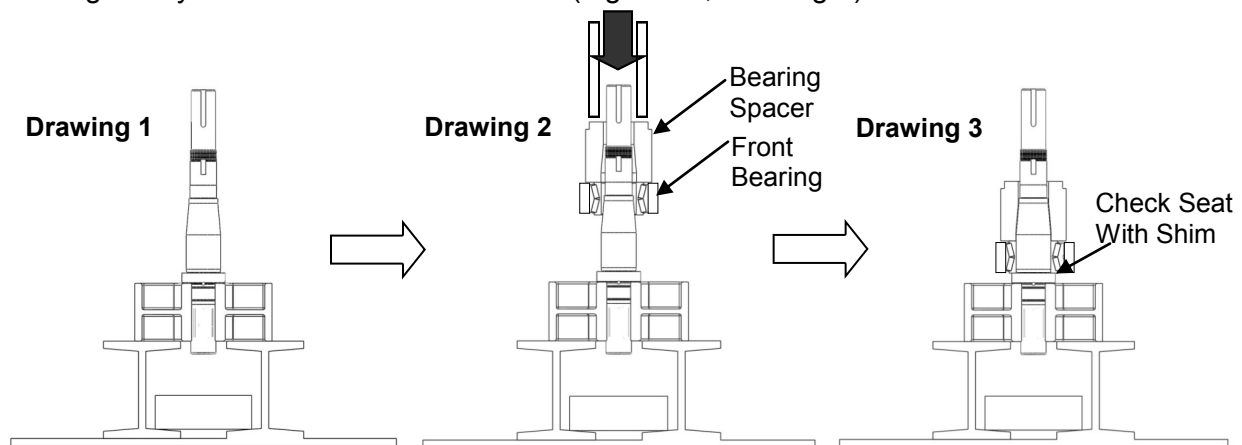

Figure 43: Pressing Front Bearing onto Shaft
1) Clean all reusable parts prior to reassemble. Apply a light coat of lubricant on the shaft area where the front bearing will sit. Position the shaft upright in the press with the splines facing down (Figure 43, Drawing 1). Open the new front bearing assembly and be sure not to interchange any parts. All bearings are manufactured as sets and assembled to have a precise overall length. Place the front bearing over the shaft along with the bearing spacer (Figure 43, Drawing 2). Make sure the bearing and spacer are aligned before pressing them on. Reference Table 5 for the required force (in tons) needed to press the bearings on to the shafts. Using a sleeve that rests on the bearing spacer and rides over the shaft, press the bearing on until it seats against the shaft shoulder. A shim can be used to ensure that the bearing is fully rested on the shaft shoulder (Figure 43, Drawing 3).